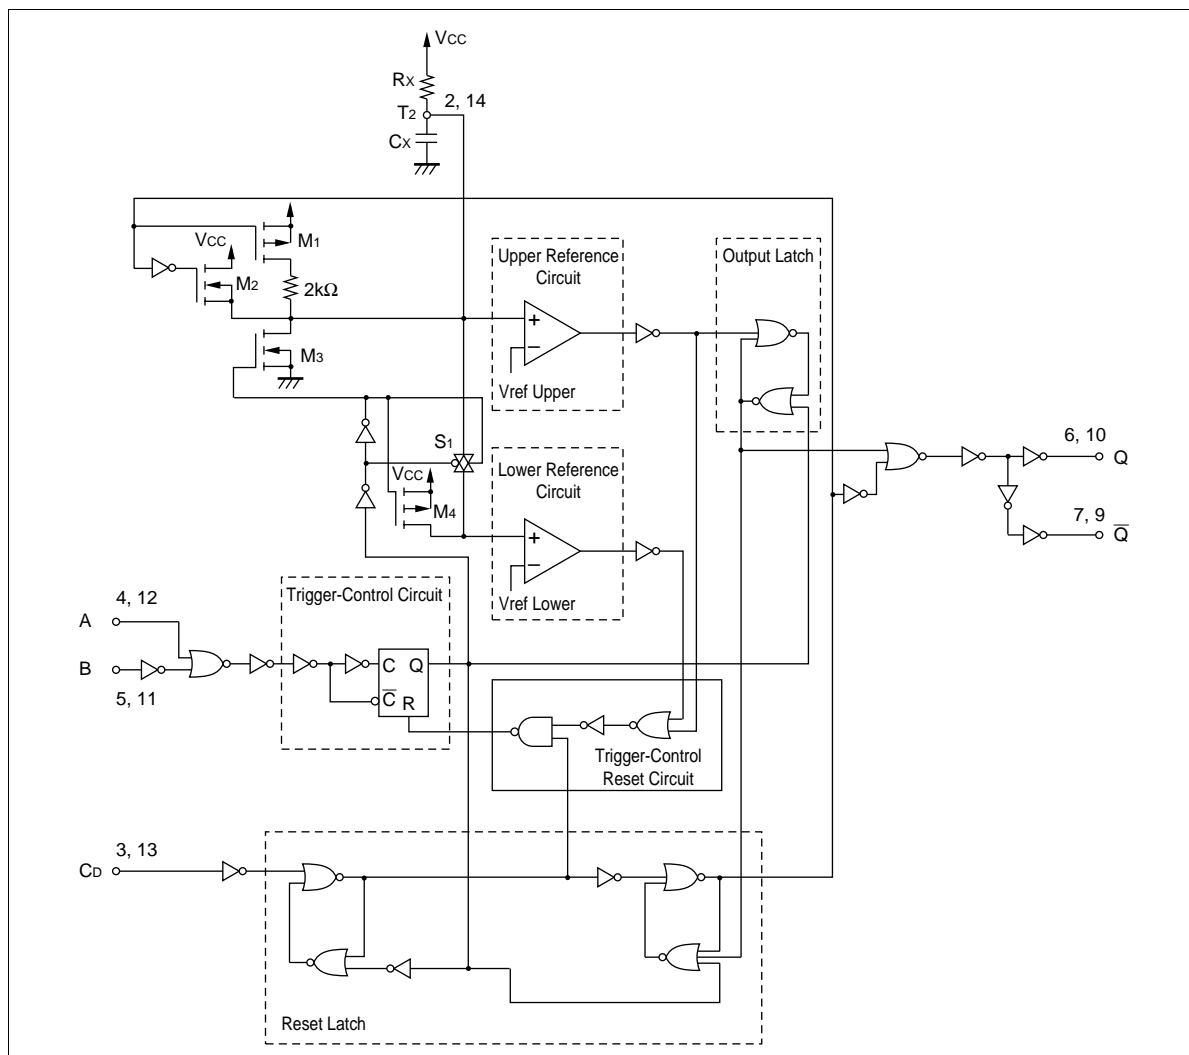
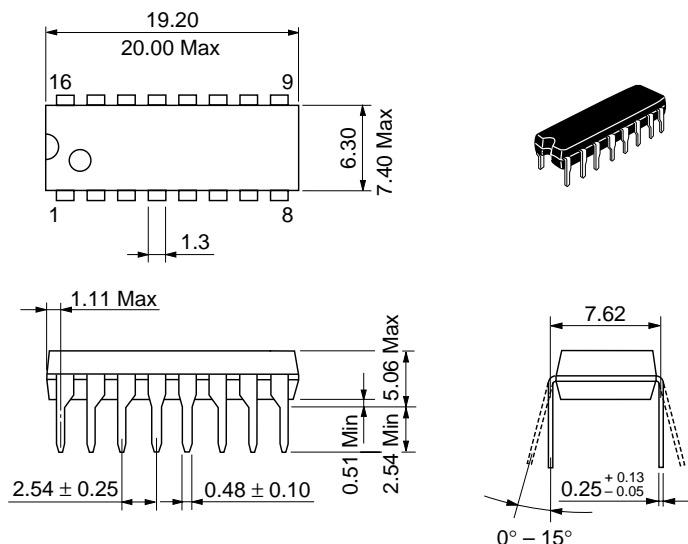

Fig. 1 Function Diagram
**Fig. 3 Retriggerable Monostable Circuitry**
Fig. 3 shows the HC4538 configured in the retriggerable mode. Briefly, the device operates as follows (refer to Fig. 1): In the quiescent state, the external timing capacitor,  $C_X$ , is charged to  $V_{CC}$ . When a trigger occurs, the Q output goes high and  $C_X$  discharges quickly to the lower reference voltage ( $V_{ref\ Lower} \approx 1/3 V_{CC}$ ).  $C_X$  then charges, through  $R_X$ , back up to the upper reference voltage ( $V_{ref\ Upper} \approx 2/3 V_{CC}$ ), at which point the one-shot has timed out and the Q output goes low.
The following, more detailed description of the circuit operation refers to both the function diagram (Fig. 1) and the timing diagram (Fig. 2)
When used in the retriggerable mode (Fig. 3), the HC4538 may be retriggered during timing out of the output pulse at any time after the trigger-control circuit flip-flop has been reset (24). Because the trigger-control circuit flip-flop resets shortly after  $C_X$  has discharged to the reference voltage of the lower reference circuit (25), the minimum retrigger time,  $t_{rr}$  (Switching Waveform 1) is a function of internal propagation delays and the discharge time of  $C_X$ :